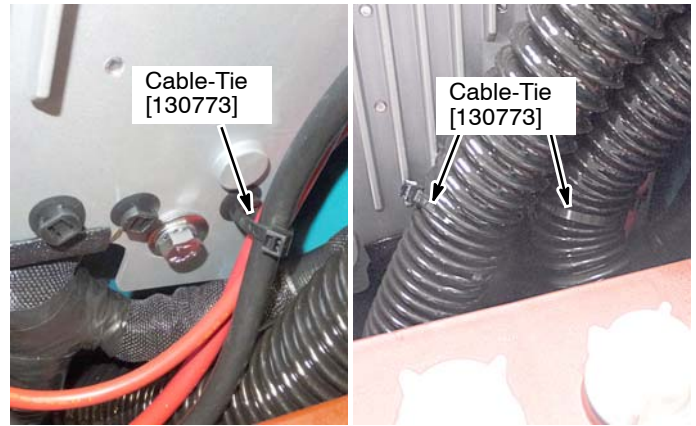

Fig. 13
7. Reconnect cables, vacuum hose and drain hose to the heat-sink panel with cable-ties (Figure 13).